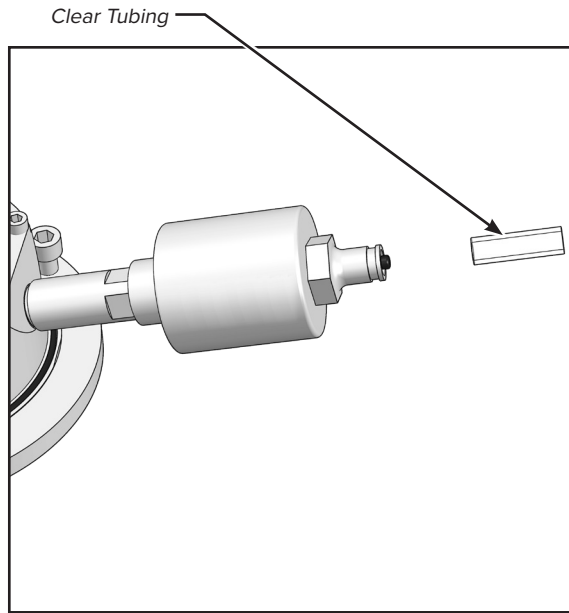

FIGURE 24
2. Remove the clear protective tubing (figure 24).